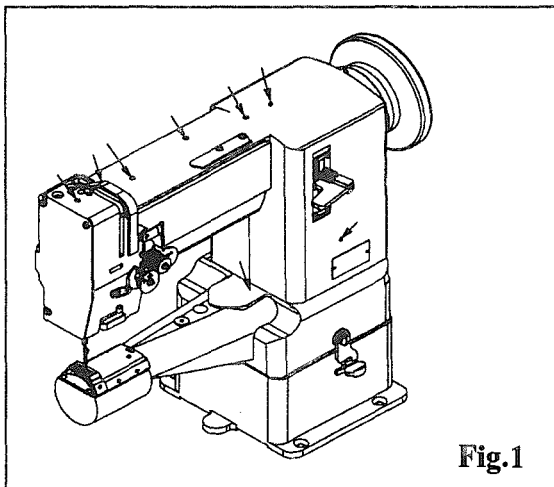
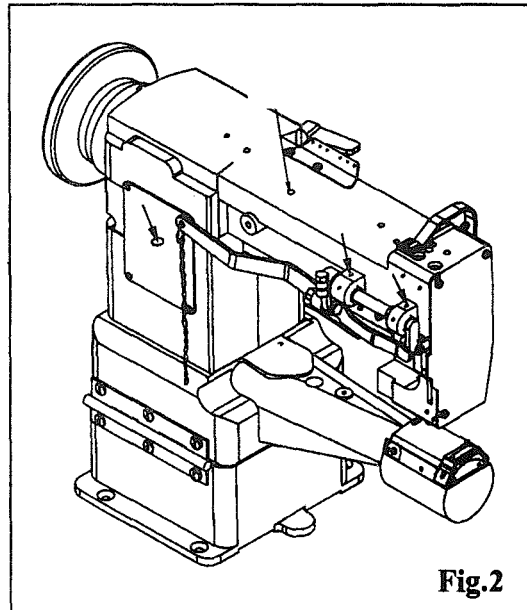
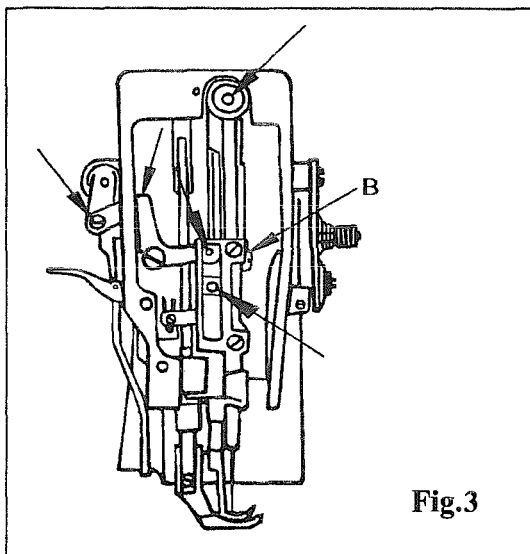
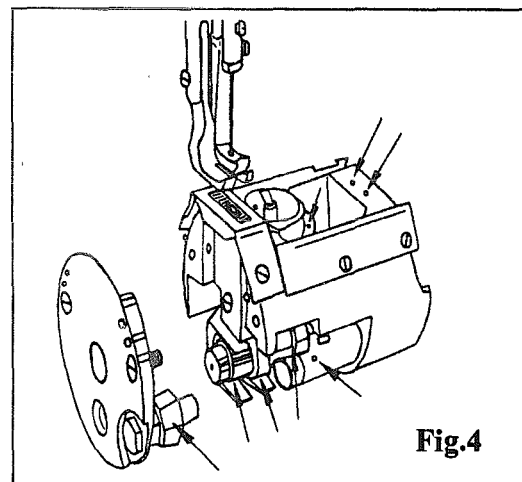

Fig.1
Fig.2
Fig.3
Fig.4
3) Lubrication (Fig.1、 Fig.2、 Fig.3、 Fig.4)
When the needle bar is at its highest position, normally the measurement between the surface of the needle plate and the upper end of the needle eye is 22.3mm. To adjust this, loosen screw (B) (Fig.3), and raise or lower the needle bar as may be required. Then tighten the screw.